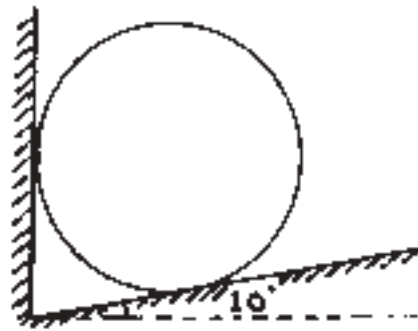

Fig. No. 4
- e) A sphere having diameter 350 mm and 750 kN as weight is placed as shown in Figure No. 4. Calculate the reaction at point of contacts.